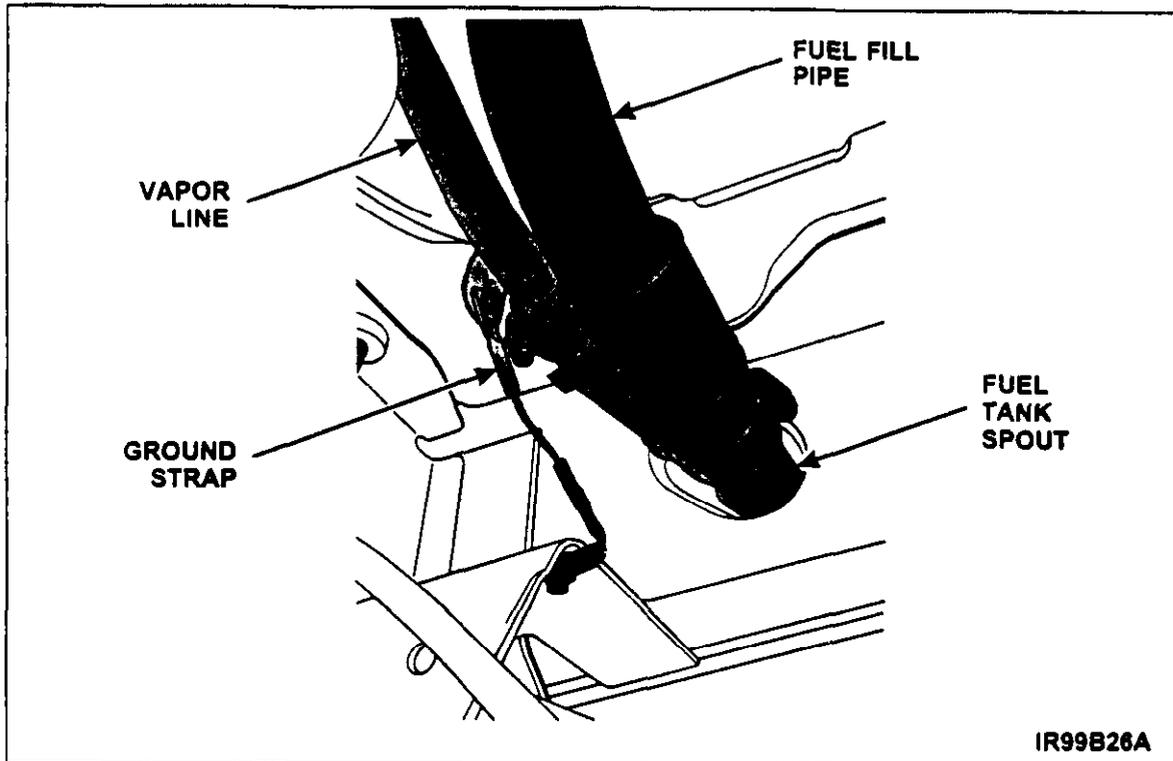

FIGURE 1
2. Disconnect the fuel fill pipe from the fuel tank spout. See Figure 1.
5. Disconnect the fuel fill pipe ground strap and the vapor line from the fuel tank. See Figure 1.